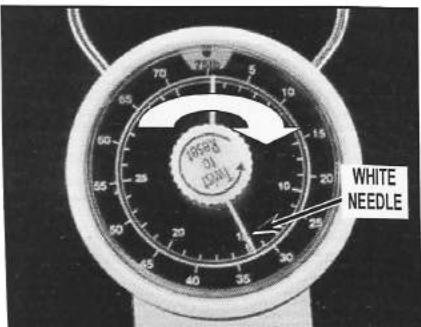

FIGURE 7
16. Set the force gauge white needle to 33 lbs (14.97 kgs) as shown in Figure 7.